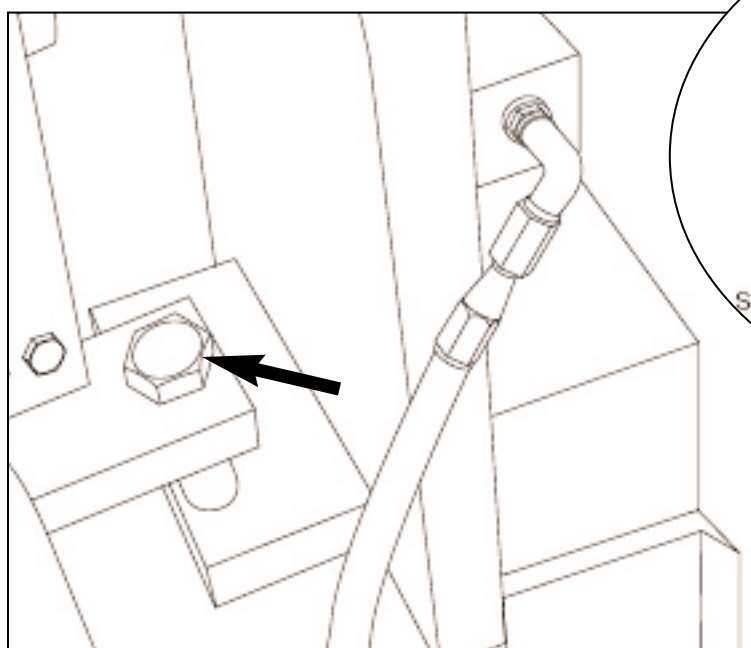

Figure 6.14 SPRING STOP ADJUSTMENT BOLTS.
6.2.8 Move spring stop assembly so springs are 1/4" [6.5mm] to 1/2" [13mm] in front of a pallet centered in pallet cradles. Also, top of spring should be flush with top of pallet. (see figure 6.14 and 6.15).